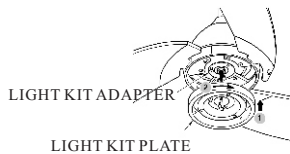

FIG.14
2. Gently pull the wire through light kit plate. Have the key hole over the loosened screws. Turn the light kit plate until it get the end of narrow end. Then, tighten the previously removed and loosened screws. (See Fig 14 & 15)